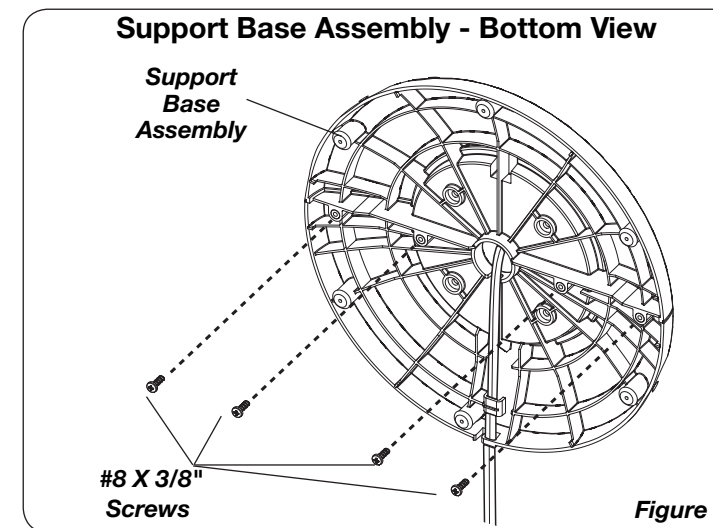

Figure 2
3. Secure the (4) #8 X 3/8" **Screws** into the four holes in the bottom of the base. (**Figure 2**)